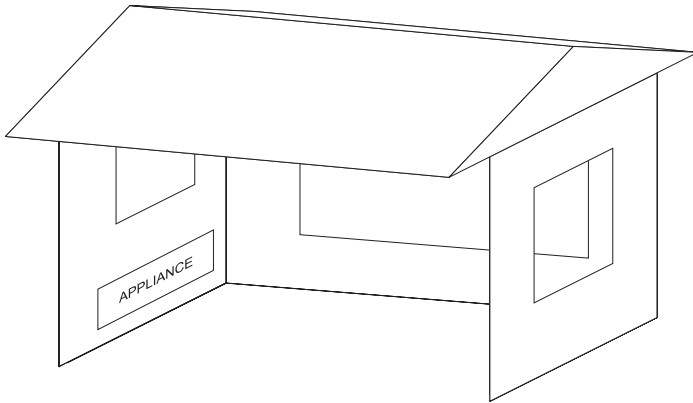

Figure 8
- Within a partial enclosure that includes an overhead cover and three side walls, as long as 30 percent or more of the horizontal periphery (perimeter of walls and open side) of the enclosure is permanently open. See Figure 8.